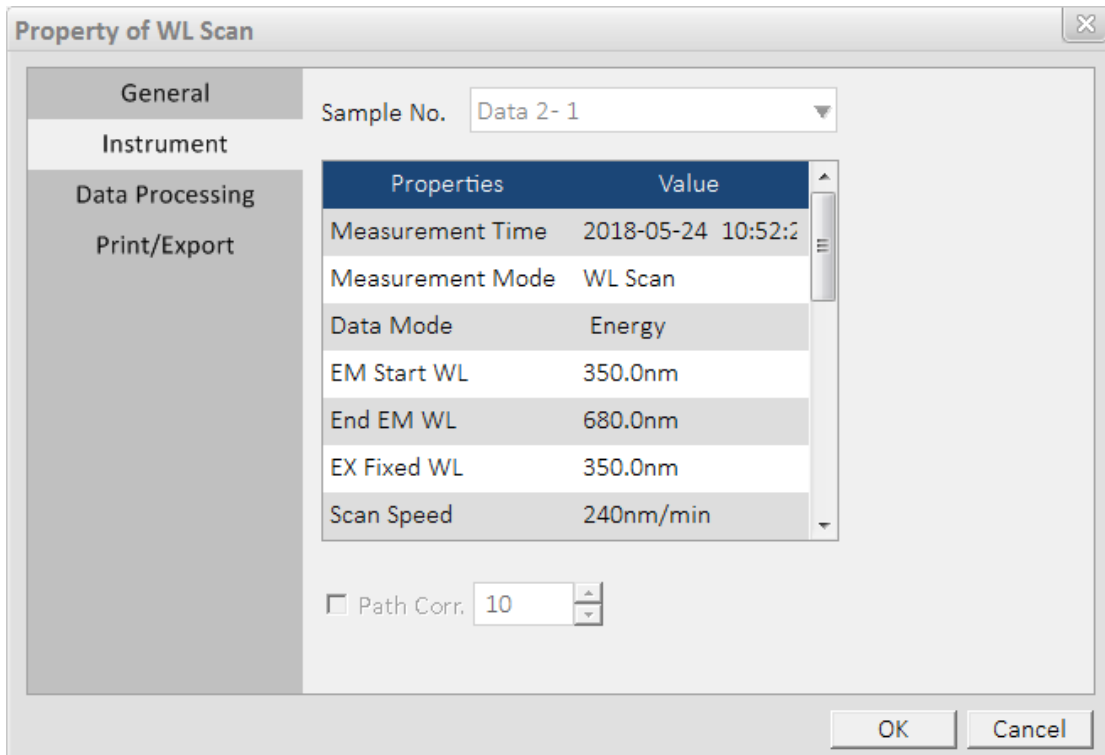

Figure 3-27 Dialog box of the system parameters of the instrument and the main parameters of WL Scan
- The second page shows the system parameters of the instrument and the main parameters of wavelength scan, as shown in Figure 3-27.